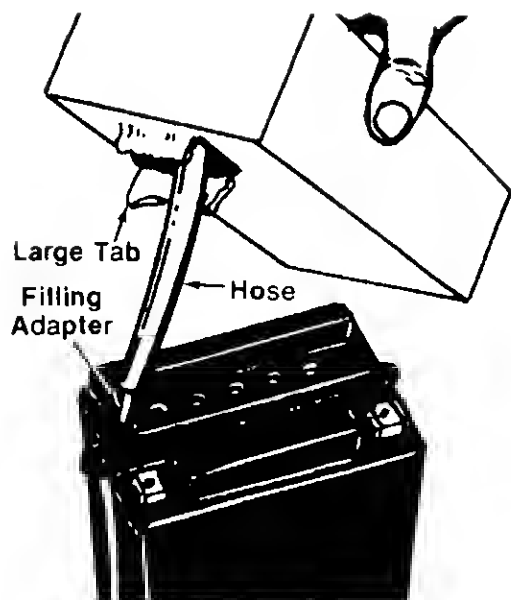

FIGURE 10.
6. Pull out hose from package and hold upright. Squeeze hose forcing all acid back into package. Cut off tip of hose and insert filling adapter. See figure 10.
7. Fill each cell to upper level marked on front of battery. Replace fill caps on battery. See figure 10.